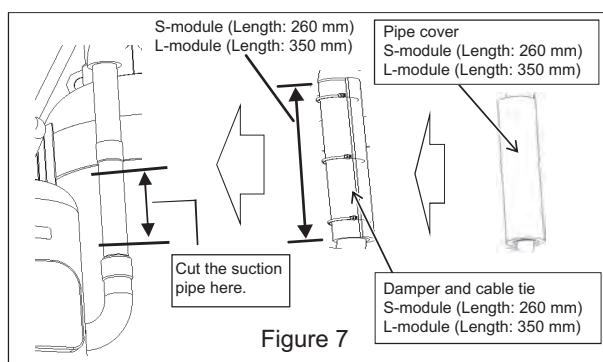

Figure 7
- (7) Remove the pipe cover and the damper, and cut the suction pipe where indicated in Figure 7.